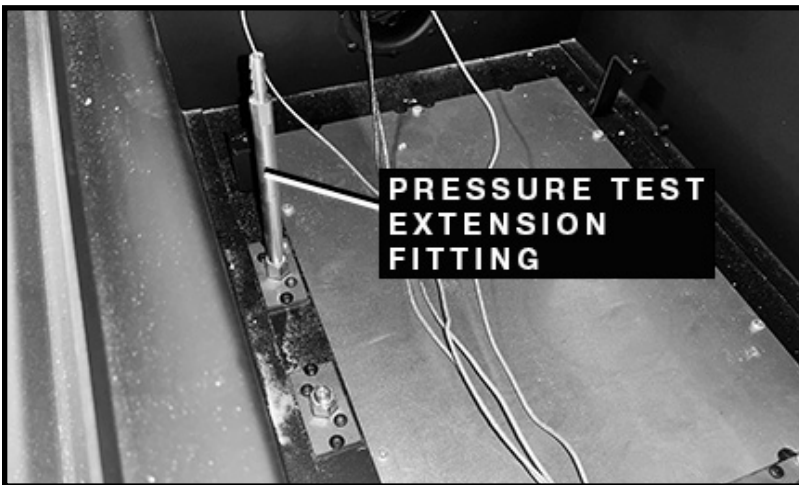

Figure 53: Pressure test extension.
2. Thread the extension test fitting into the open port (Figure 53).